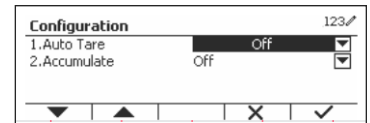

Figure 72
- Select the list item and press the softkey corresponding to the  icon to change settings as desired. (See Figure 72)